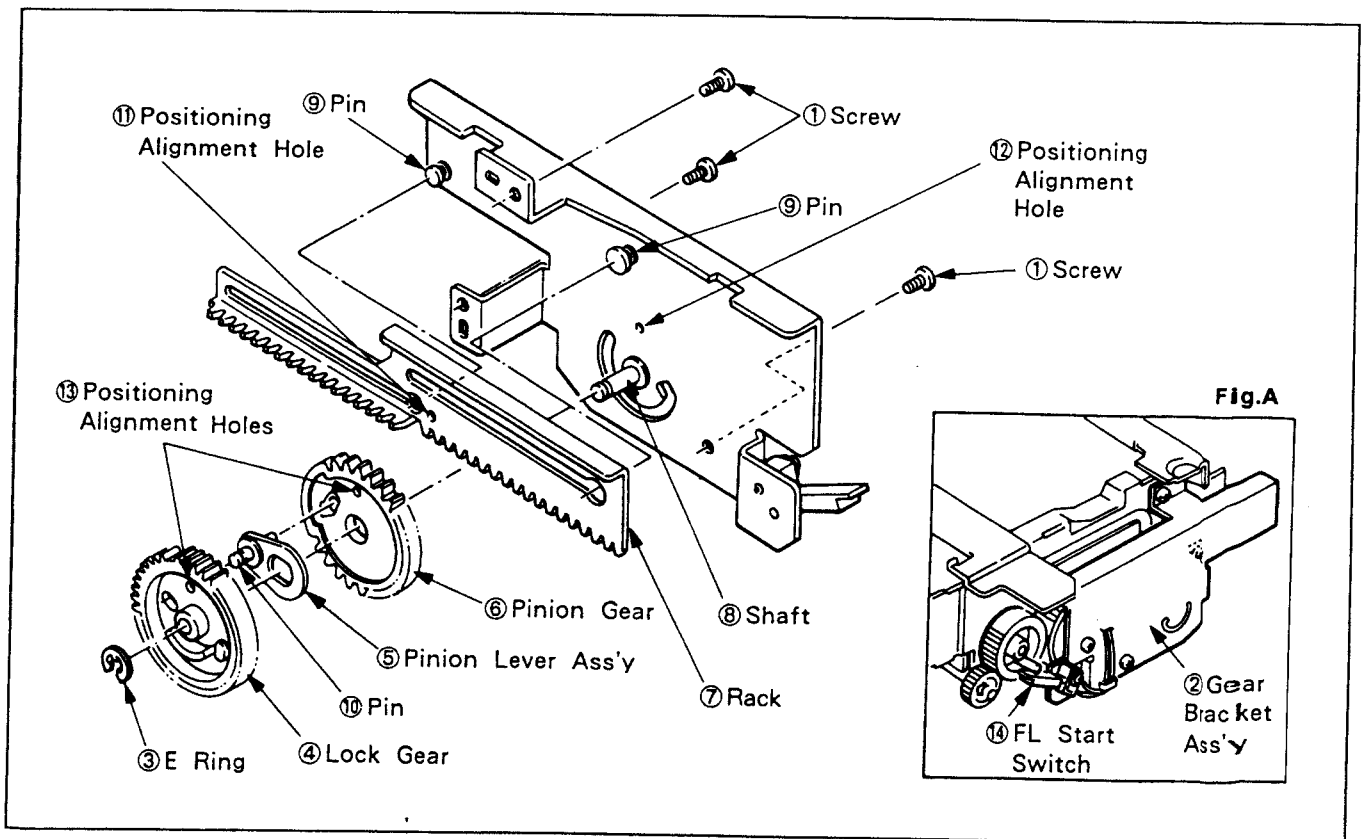

Fig. 5-2-2. Gear Bracket Ass'y
5-2-2. Gear Bracket Ass'y (See Fig. 5-2-2.)
Also align the positioning alignment holes ⑬ of PINION GEAR and LOCK GEAR with the positioning alignment hole ⑪ of GEAR BRACKET by referring to Fig. 5-2-2. After mounting them, check to be sure that FL START SWITCH ⑭ is in the ON state shown in Fig. A.